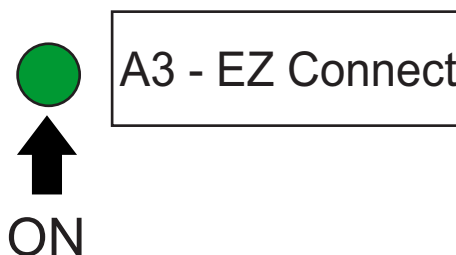

Figure 121. A3 - EZ Connect Status Indicator (ON/GREEN)
5. Verify that the **A3 - EZ Connect status indicator** (Figure 121) is **ON (GREEN)**.